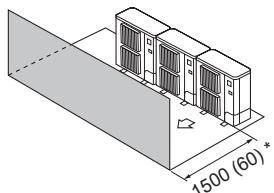

Fig. 2-14
(3) Obstacles at front only (Fig. 2-14)